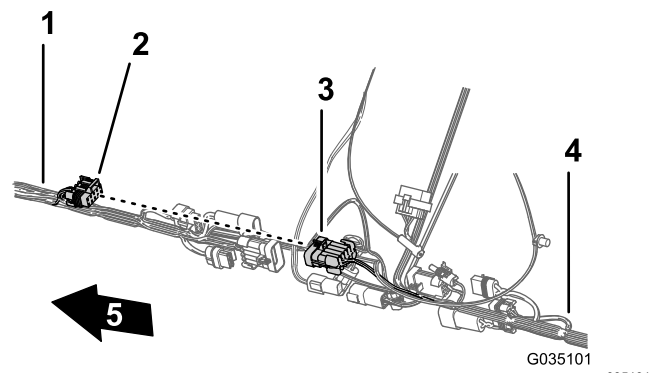

Figure 78
2. Connect the 10-socket connector of the front harness for the spray-harness interconnect into the 10-pin connector of the rear harness for the spray-harness interconnect (Figure 78).